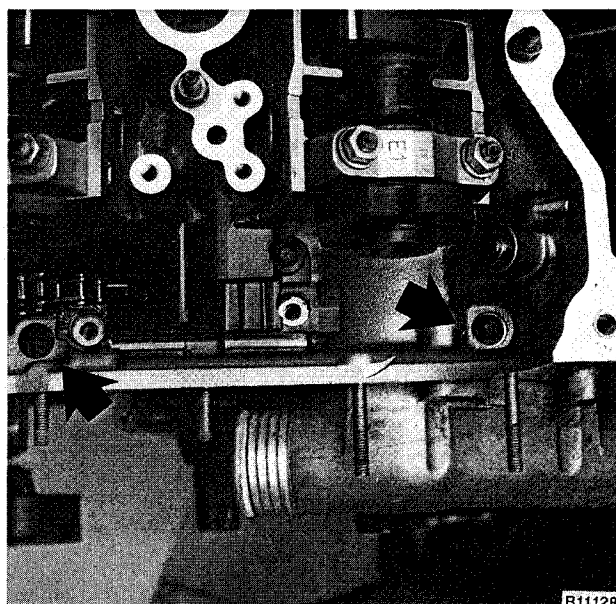

Fig. 28. Cylinder head-to-timing chain cover mounting bolts (arrows).
26. Remove bolts holding lower timing chain cover to cylinder head (use Torx E8 socket). See Fig. 28.